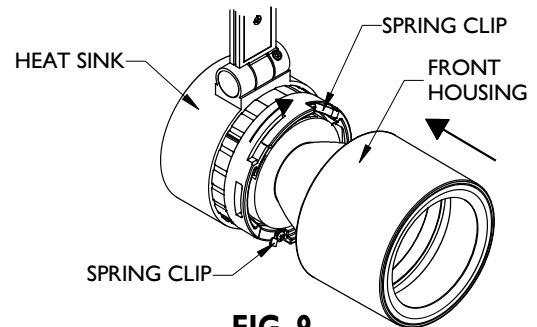

FIG. 9
3. Replace FRONT HOUSING by aligning bayonet tabs with the open slots on the HEAT SINK, pushing it firmly into the HEAT SINK and twisting it clockwise until the spring clips are fully engaged. (FIG. 9)